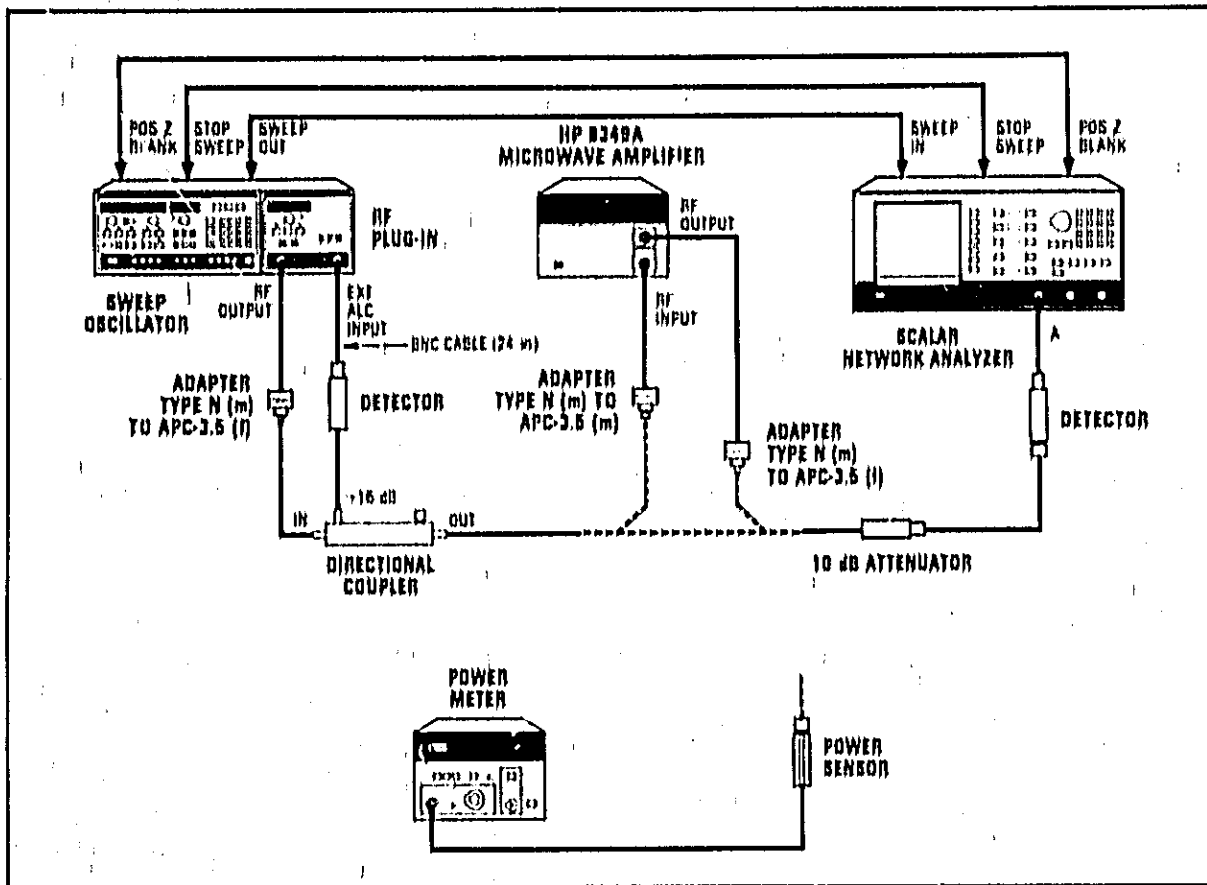

Figure 4-1. Small Signal Gain Test Setup
1. Connect the equipment as shown in Figure 4-1 with the coupler output connected to the 10 dB attenuator.
10. Reconnect the network analyzer to the output of the coupler as shown in Figure 4-1.
22. Reconnect the network analyzer to the output of the coupler as shown in Figure 4-1.